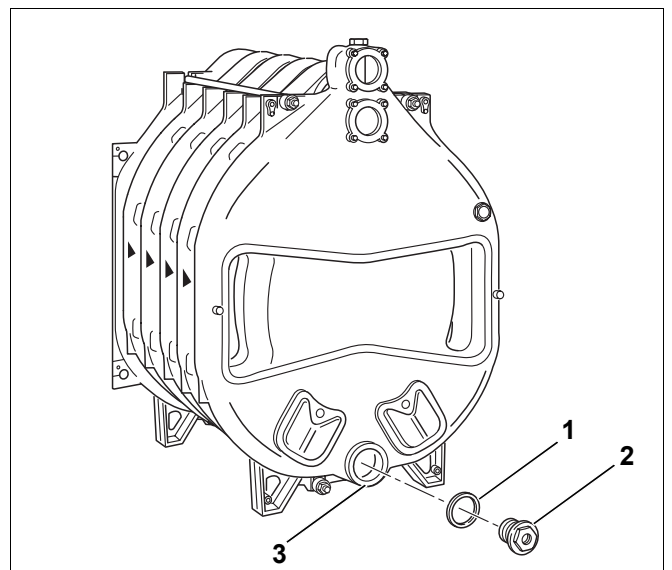

Fig. 21 Flange installation
- Close the lower boiler hub at the front and rear (Fig. 21, **Item 3**). To do this, set the corresponding gasket (Fig. 21, **Item 1**) onto the respective boiler hub and seal the corresponding drain plug into the appropriate port.
Fit the plug with internal $\frac{3}{4}$ " thread for the drain cock (Fig. 21, **Item 2**) to the rear of the boiler.